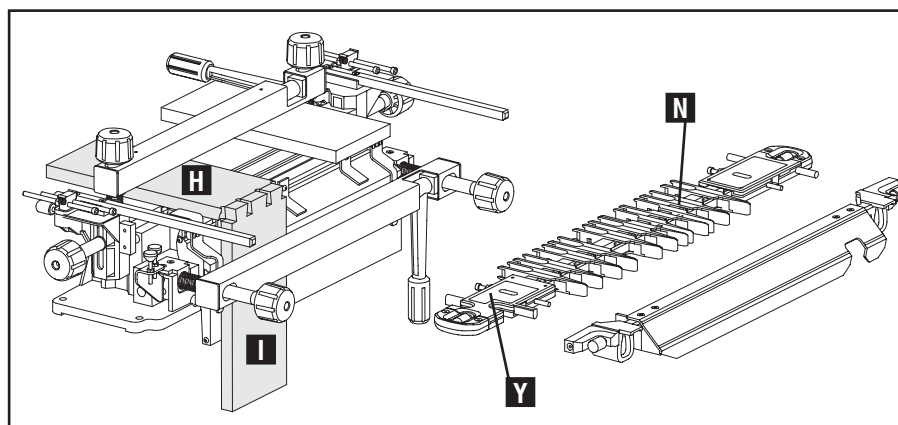

Fig. D11
1. Remove stabilizer bar and remove template. Flip template (N) Fig. D11 over and replace it back on the OMNIJIG® so the red "A Pins" label (Y) is located at the upper left side.
**NOTE:** The horizontal scrap board (H) can remain if your tailboard and pinboard are the same thickness. If not, then replace the horizontal scrap board with one that is the same thickness as the tailboard.